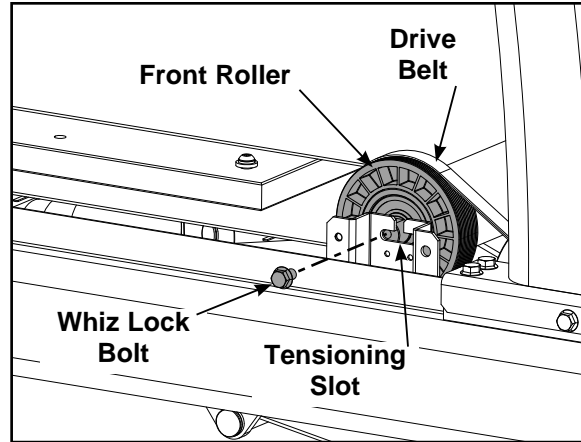

Figure 12
- A. Using a 9/16" Socket wrench loosen the right front roller bolt. See Figure 12. **NOTE:** The bolt will stay on the front roller. You do not need to remove it for this procedure.
- C. Ensure the two bolts that fasten the front roller to the frame are in place. Lower the front roller into the tensioning slots in the frame. See Figure 12. **NOTE:** Do not tighten the bolts at this time.
- D. Continue to tighten bolts until the front roller is all the way back in the tensioning slots. See Figure 12.
- E. Using a 7/16" Socket wrench fully tighten the front roller bolts. See Figure 12.